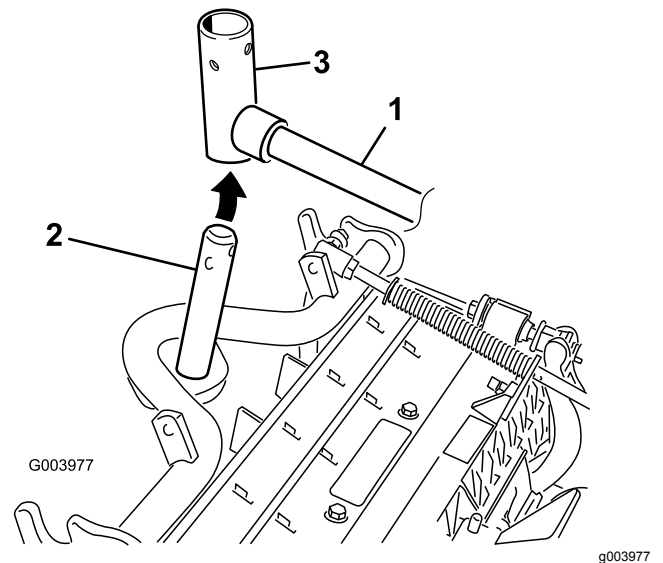

Figure 11
8. For the front cutting units, slide a cutting unit under the lift arm while inserting the carrier-frame shaft up into the lift-arm-pivot yoke (**Figure 11**).
- B. Insert the lift-arm yoke onto the carrier-frame shaft (Figure 11).